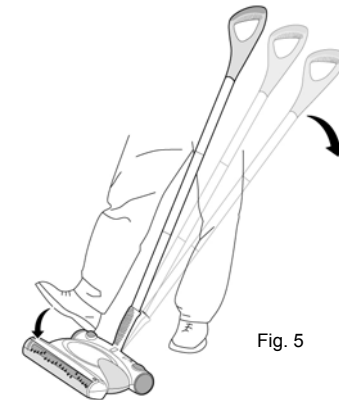

Fig. 5
3. To release the handle to a comfortable position, apply pressure to the top of the sweeper head with your foot while pulling back on the handle.(Fig. 5)